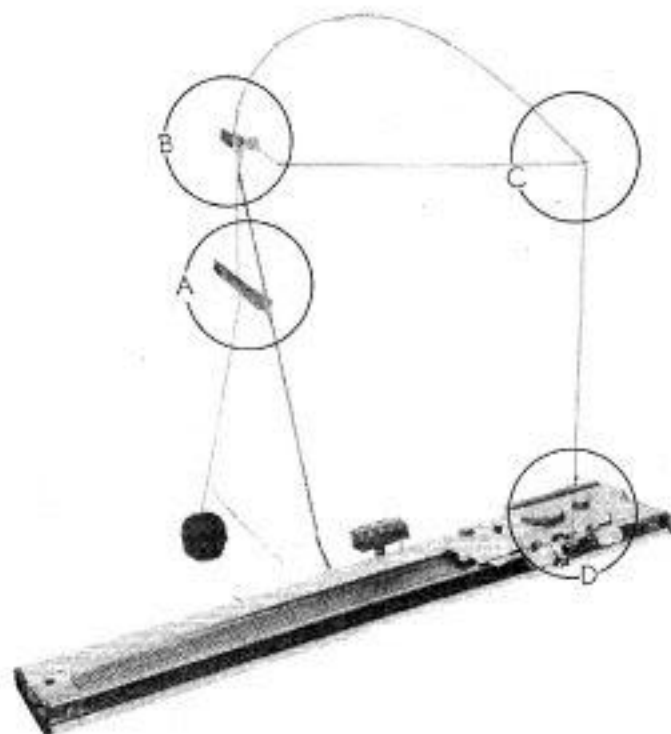
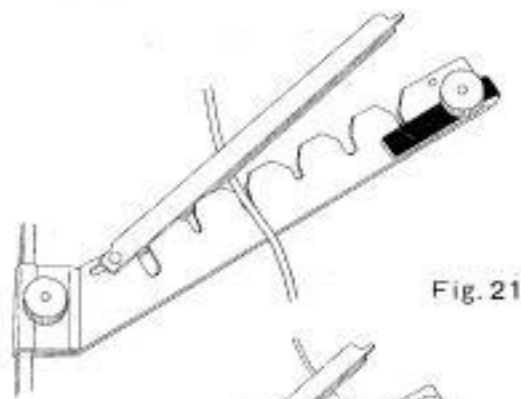

Fig. 20
Fig. 21
- a) Through one of the eyelets of the Yarn Guide Arm. (Fig. 20-A & Fig. 21)
Note: First pull forward the top lid of the Yarn Guide Arm so that it will be brought upward to receive the wool at one of the six cut-outs located along the Arm — see Fig. 21.
b) Up through Yarn Trap Unit (Fig. 20-B)
c) Through the pigtail at the end of the long wire take-up arm (Fig. 20-C & Fig. 26)
(Fig. 20-D & (Fig. 27)
The function of the Overhead Feeder is to guide the wool from ball or cone to the carriage feeder by means of the yarn trap unit (B) and the long wire take-up arms as shown in Fig. 20-C.